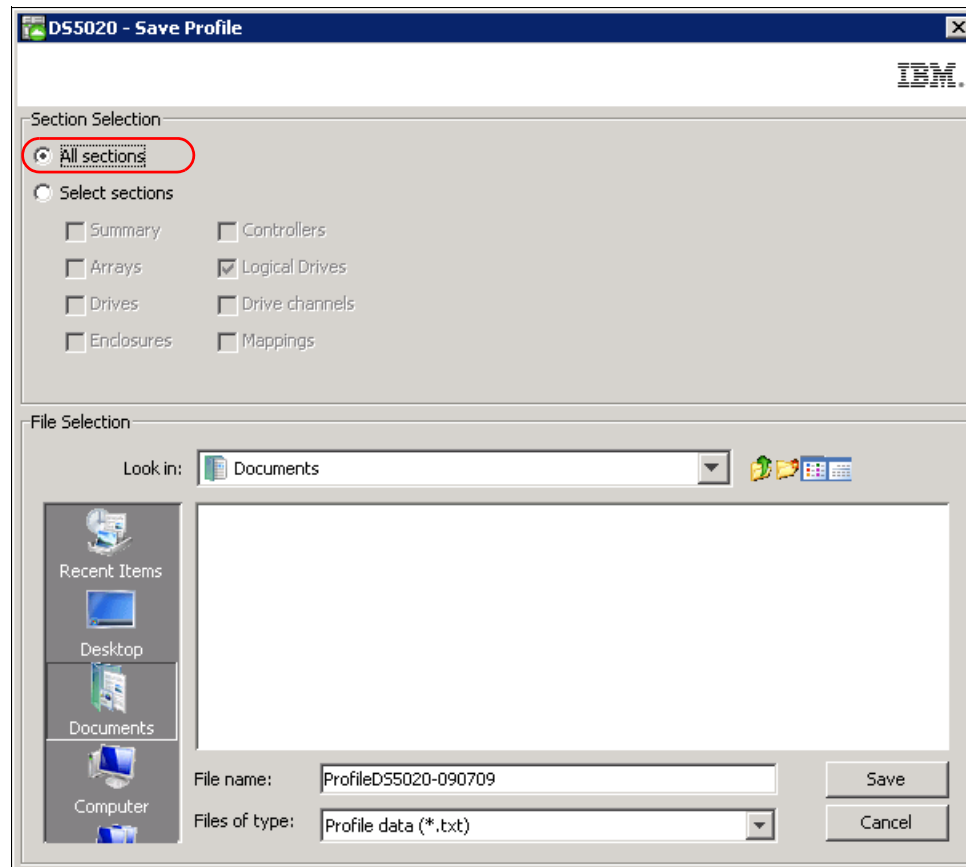

Figure 3-97 Save Profile: All sections
3. Select the **Save As** option to keep a copy of the current profile configuration. In the next window, select **All Sections** and specify a directory and file name where you will save a copy, as shown in Figure 3-97.